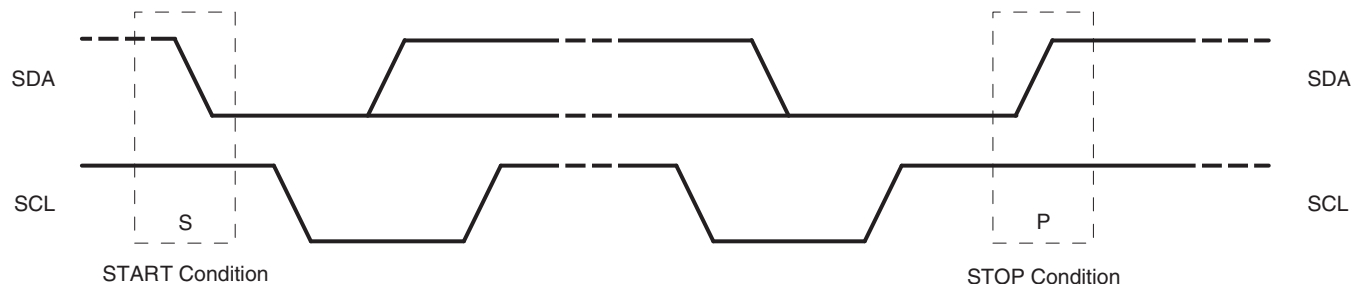

Figure 11. Definition of START and STOP Conditions
Both data and clock lines remain high when the bus is not busy. A high-to-low transition of the data line while the clock is high is defined as the START condition (S). A low-to-high transition of the data line while the clock is high is defined as the STOP condition (P) (see Figure 11).